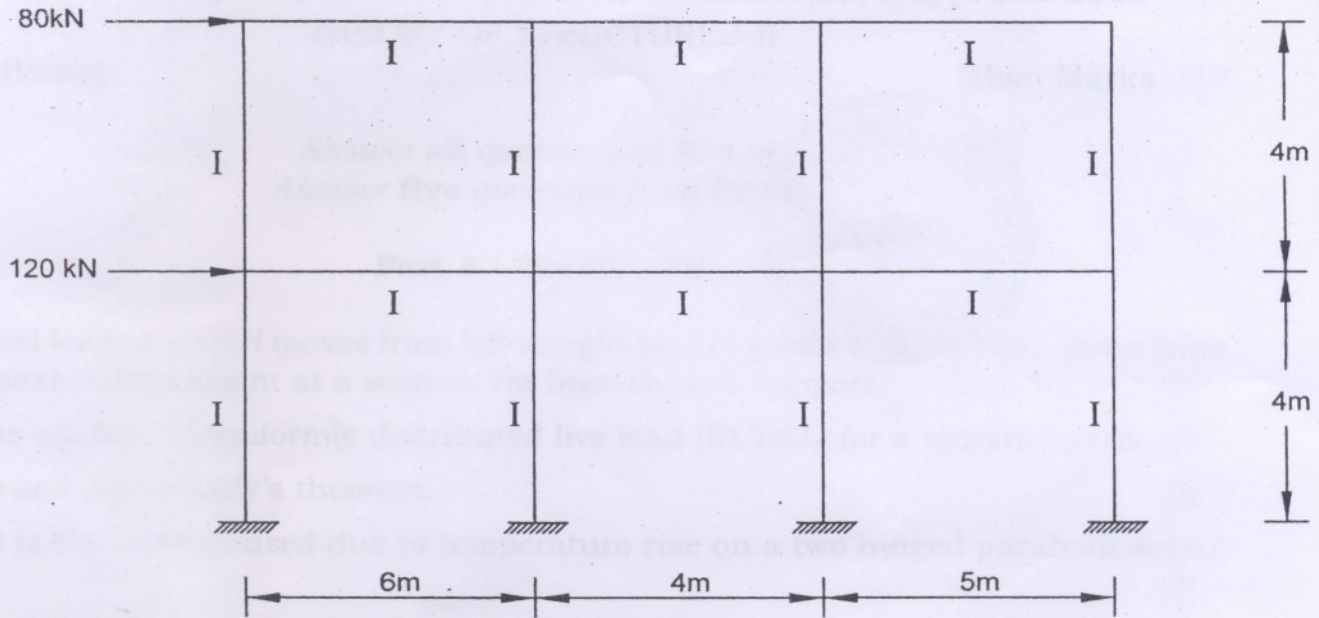

Fig.3
16. Using portal method analyse two storied frame shown in Fig.3.